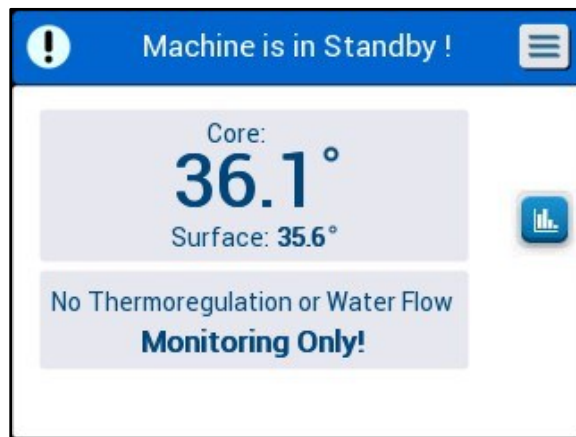

Figure 11: Standby
3. Following a successful Self-Test, the system automatically starts to cool the water through internal circulation (as in Standby Mode) (See Figure 11: Standby).